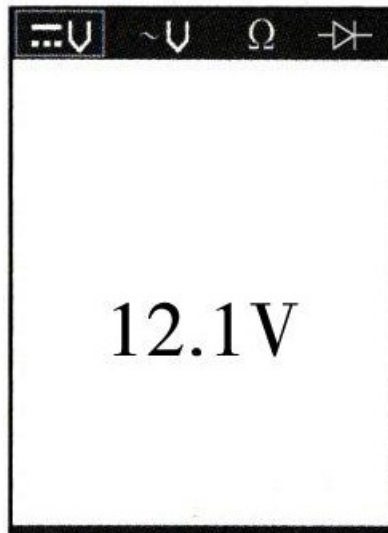

Figure 2
- **DC voltage** While the tool is in this mode, contacts the probe tip to a circuit, then the LCD display will read the DC voltage with a resolution of 0.1 volt. (Figure 2)